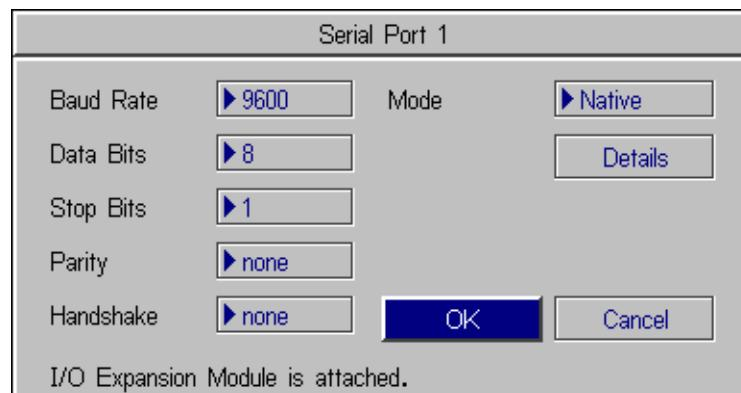

Figure C-17: Serial Port Dialog
5. Select Serial Port 1 to open the Serial Port 1 dialog (Figure C-17).